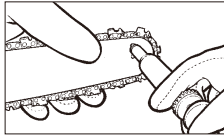

Fig. 20
3. Using the Lube Gun (optional), insert needle nose into the lubrication hole and inject grease until it appears at outside edge of sprocket tip (Fig. 20).